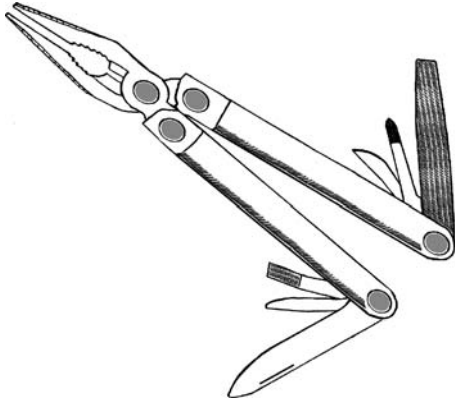

Figure D.6
- Leatherman, Gerber, or similar multipurpose tool (see Figure D.6)